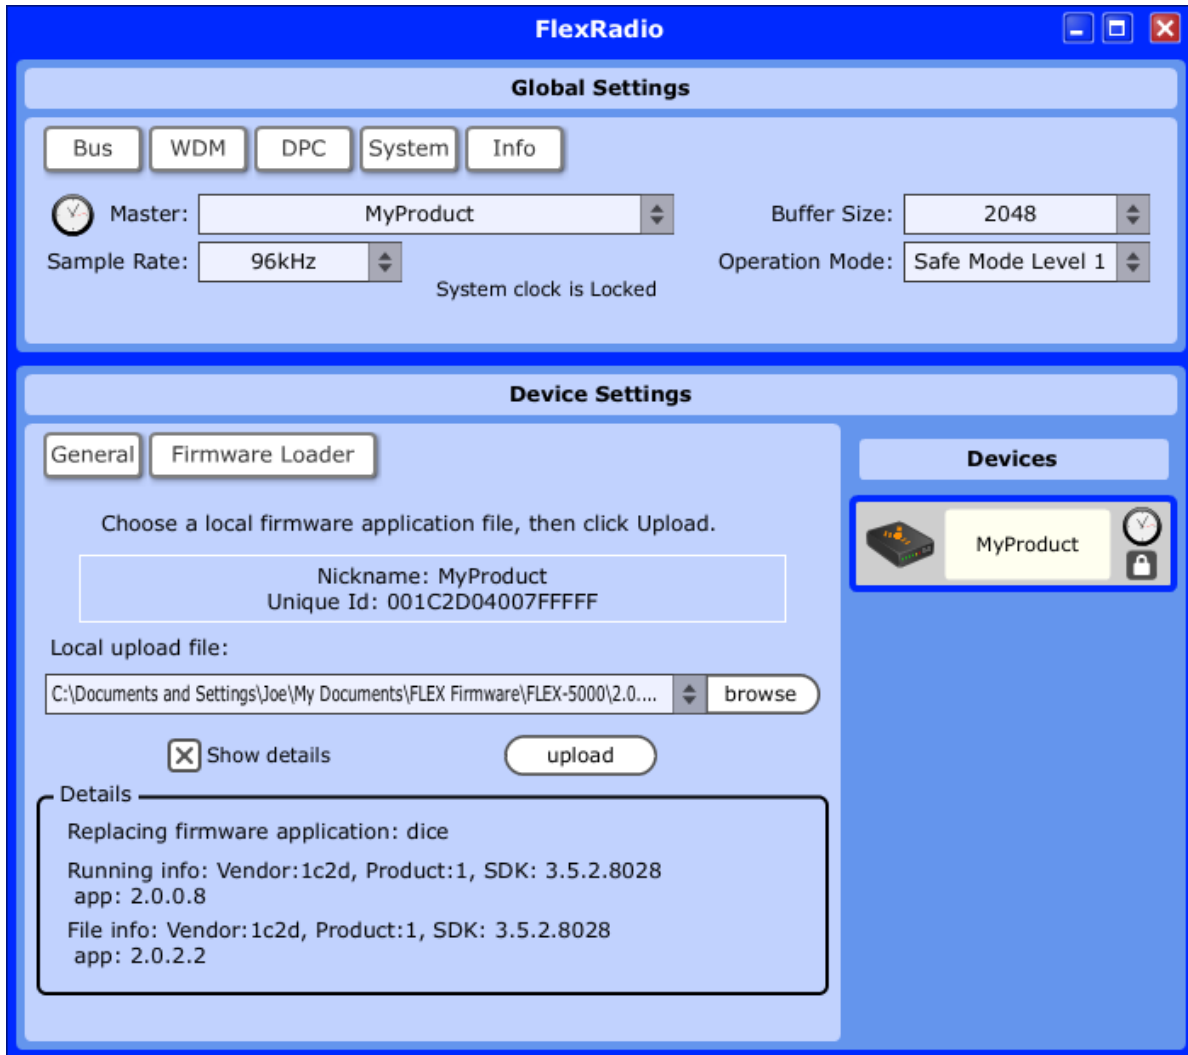

Figure 159: FlexRadio Control Panel - Firmware Details
- Click **Show details** to view the firmware details (Figure 159). The **Running Info** displays the firmware version you are currently running (**app: 2.0.0.8**), whereas the **File info** displays the version you are about to upload (**app: 2.0.2.2**).